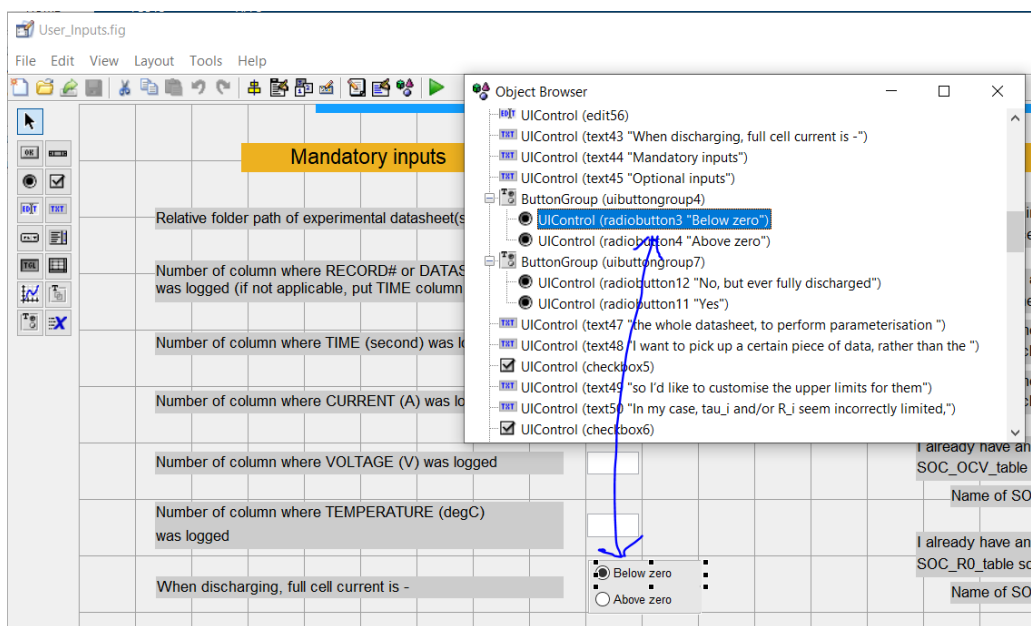

Fig. 6. Use *GUIDE* to open and edit *User_Inputs.fig*.
***User_Inputs.fig* claims objects (e.g., radiobutton) of the GUI.** If you want to add/delete objects to/from the GUI, *User_Inputs.fig* is the file to edit – please use **‘GUIDE’** to open and edit *User_Inputs.fig*. Once opened with GUIDE, all the objects will be editable, as Fig. 6., and you can use Object Browser to match the ID with location of each existing object.